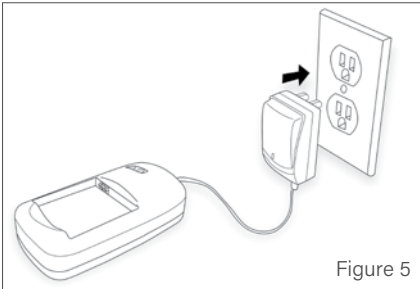

Figure 5
Step 1: Plug the battery pack charger and cradle into a wall outlet (Figure 5). A green light on the A/C adaptor will illuminate indicating power (Figure 6).